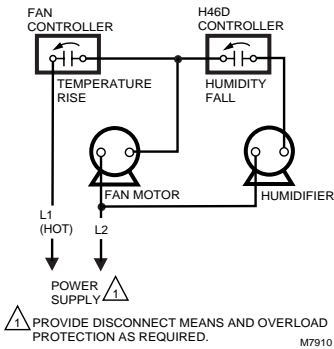

Fig. 2. Typical wiring diagram for H46D single-speed fan motor.
- 5 Pull the wires from the switch box through the opening in the adapter plate and connect to the H46 leadwires with the solderless connectors provided. See Fig. 2 through 4 for typical hookup.
Disconnect power supply before connecting wiring to avoid electrical shock or equipment damage. All wiring must comply with local codes and ordinances. Do not exceed contact and coil ratings when wiring into the system. See Fig. 2.